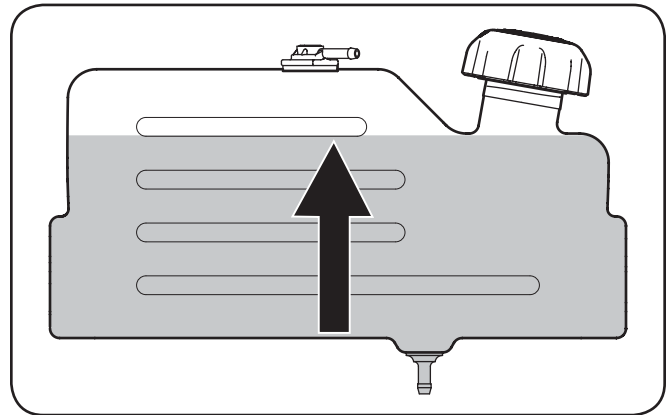

Figure 3-6
**IMPORTANT:** Do not overfill the tank. Fill tank to the base of the filler neck to allow space for fuel expansion. Do NOT Top Off the tank with fuel. See Figure 3-6.